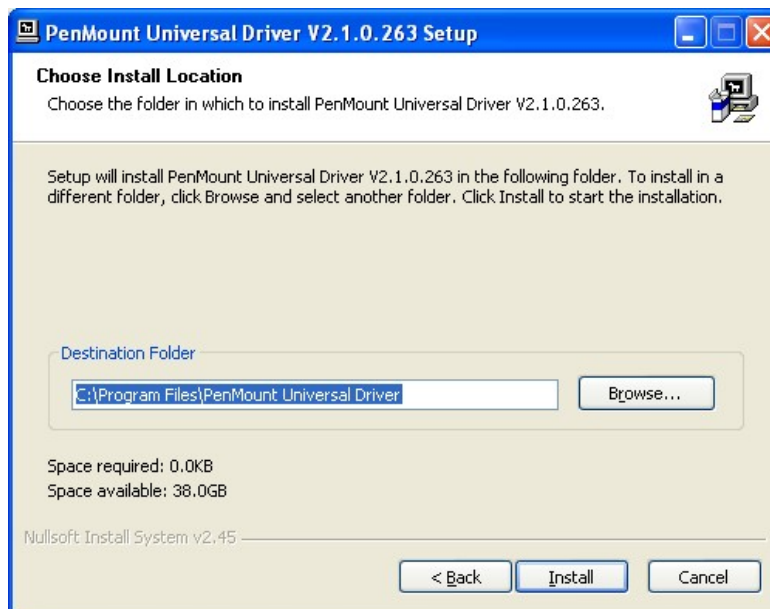

Figure 6-20: Touchscreen Driver Choose Install Location
Step 8: Browse for an install location or use the one suggested (Figure 6-20).